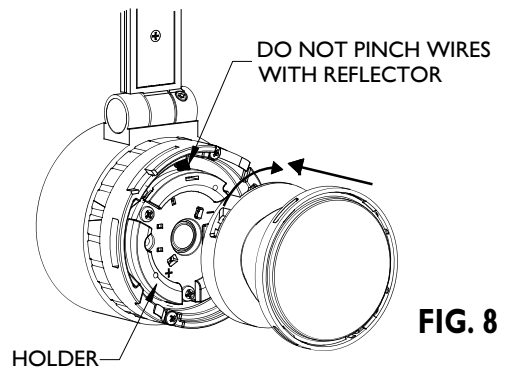

FIG. 8
2. Push and rotate REFLECTOR clockwise into the HOLDER until SNAP FEATURES are secure within the designated slots. (FIG. 8)